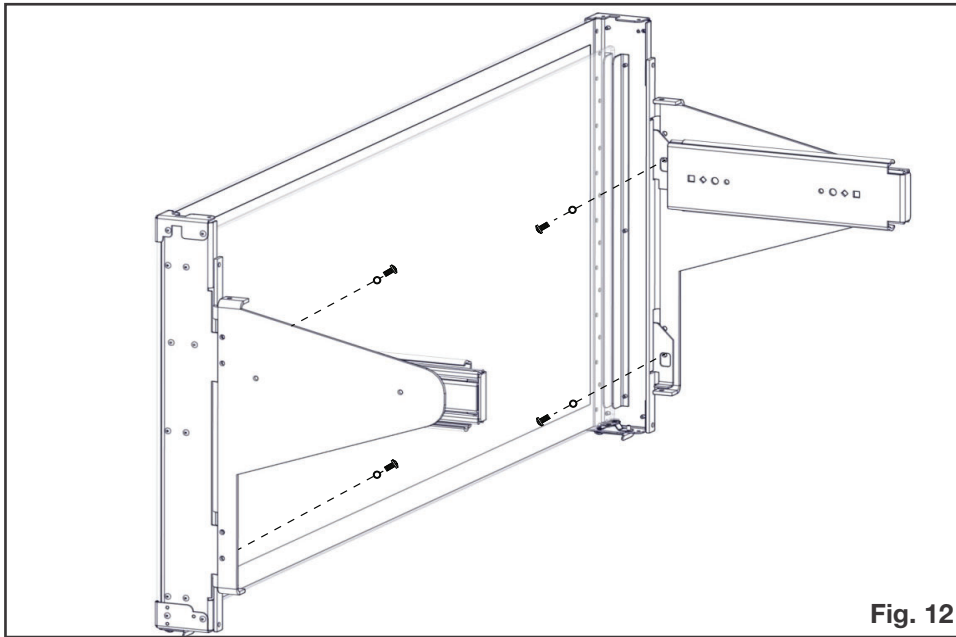

Fig. 12
9. Secure GGA-1 with 1 fastener and 1 washer on top and bottom of each GGA-1 slider bracket (total of 4) holding the GGA-1 tight to the GGA-1 slider bracket surface throughout **(Fig. 12)**. Tighten firmly enough to hold GGA-1 against GGA-1 slider bracket. Do not fully tighten until adjustment is complete and during final GGA-1 installation.